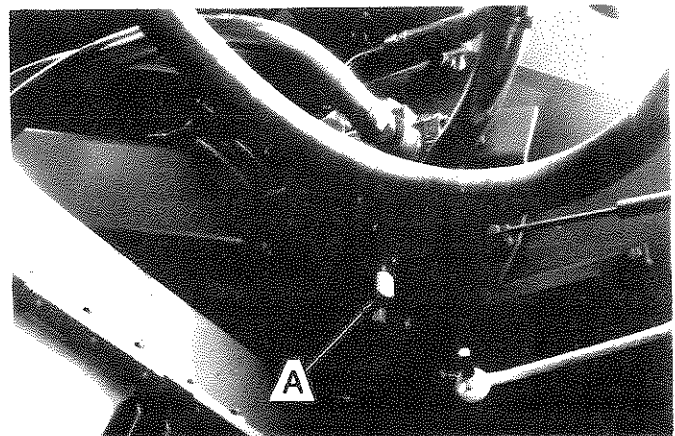

Fig. 53
2. Remove the 1/4 inch JIC cap from gauge port (A), see Fig. 53.
3. Connect a 5,000 p.s.i. hand-held gauge onto port (A).